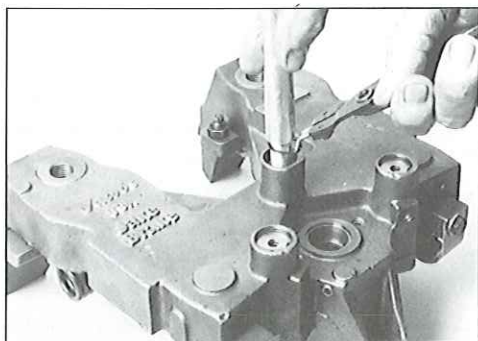

FIG. 51
1. Push down on the accumulator cover using the appropriate diameter rod and remove the retaining ring (see Fig. 51).